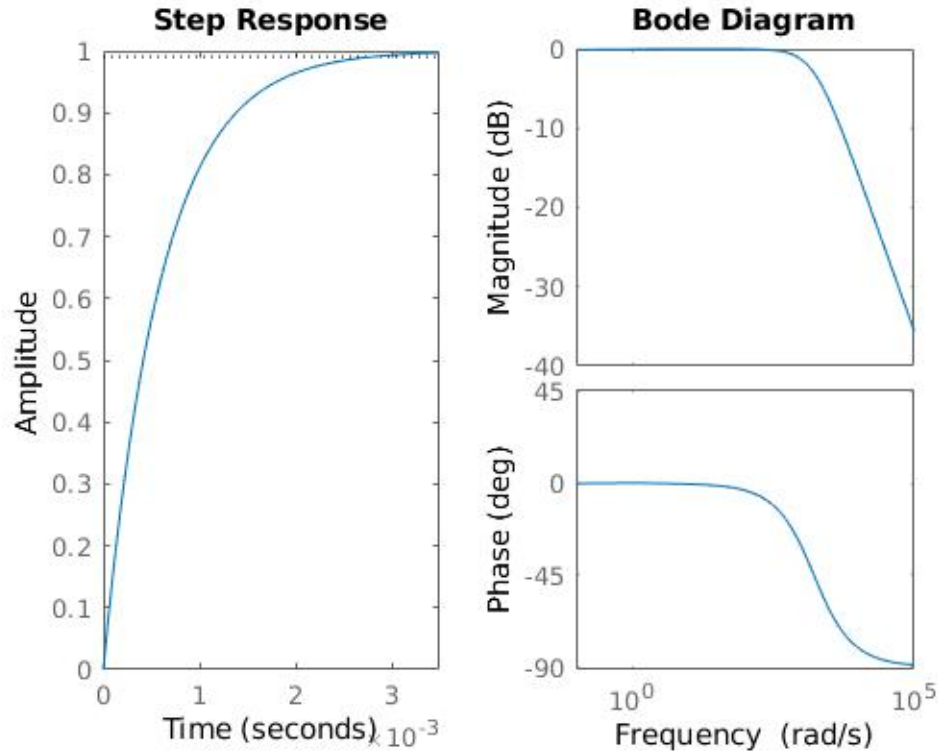

Figure 3: Closed loop step and frequency response.
- (c) Figure 3 shows the step and frequency response for the closed loop system.